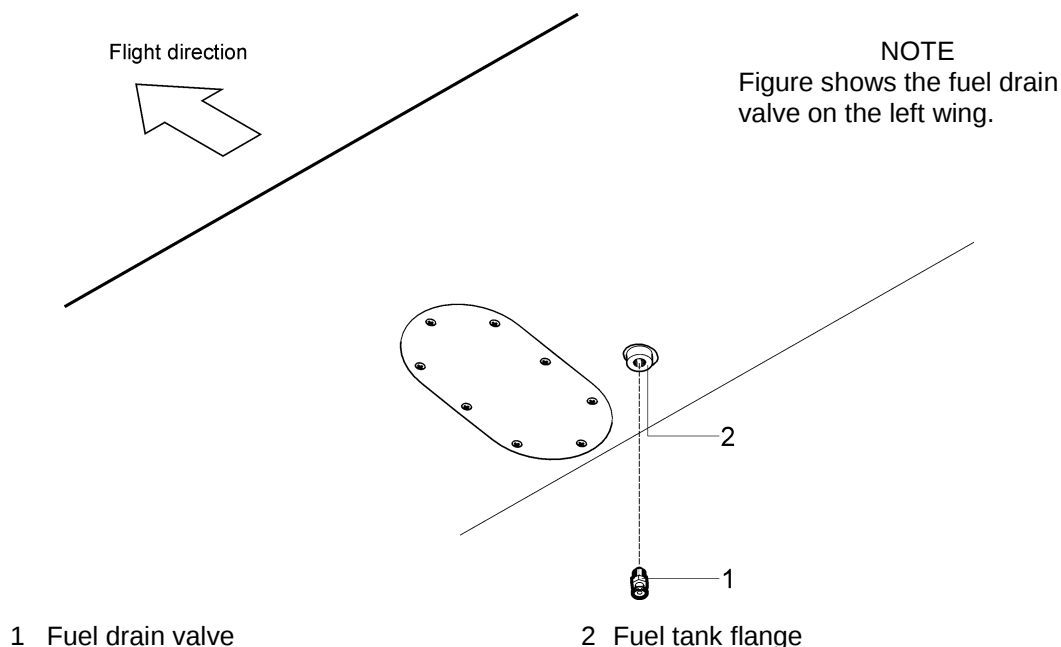

Fig. 9-7: Fuel drain valve removal / installation
- (b) Unscrew drain valve (1, Fig. 9-7) from the tank (2) or gascolator.
(a) Screw the drain valve (1, Fig. 9-7) in the tank (2) or gascolator – use LOCTITE 565 or equivalent sealant on the drain valve thread.